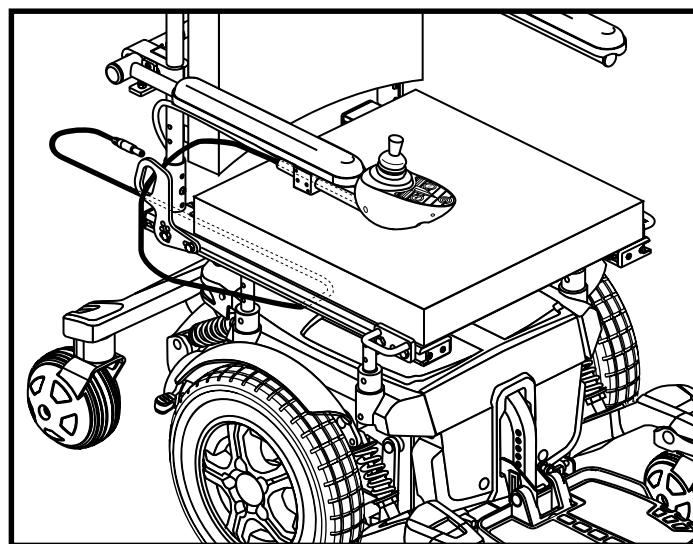

Figure 12. Remote Plus Controller Routed on a Synergy Seat
4. Install the controller and route the cable to the back of the power base. See figures 12 and 13.